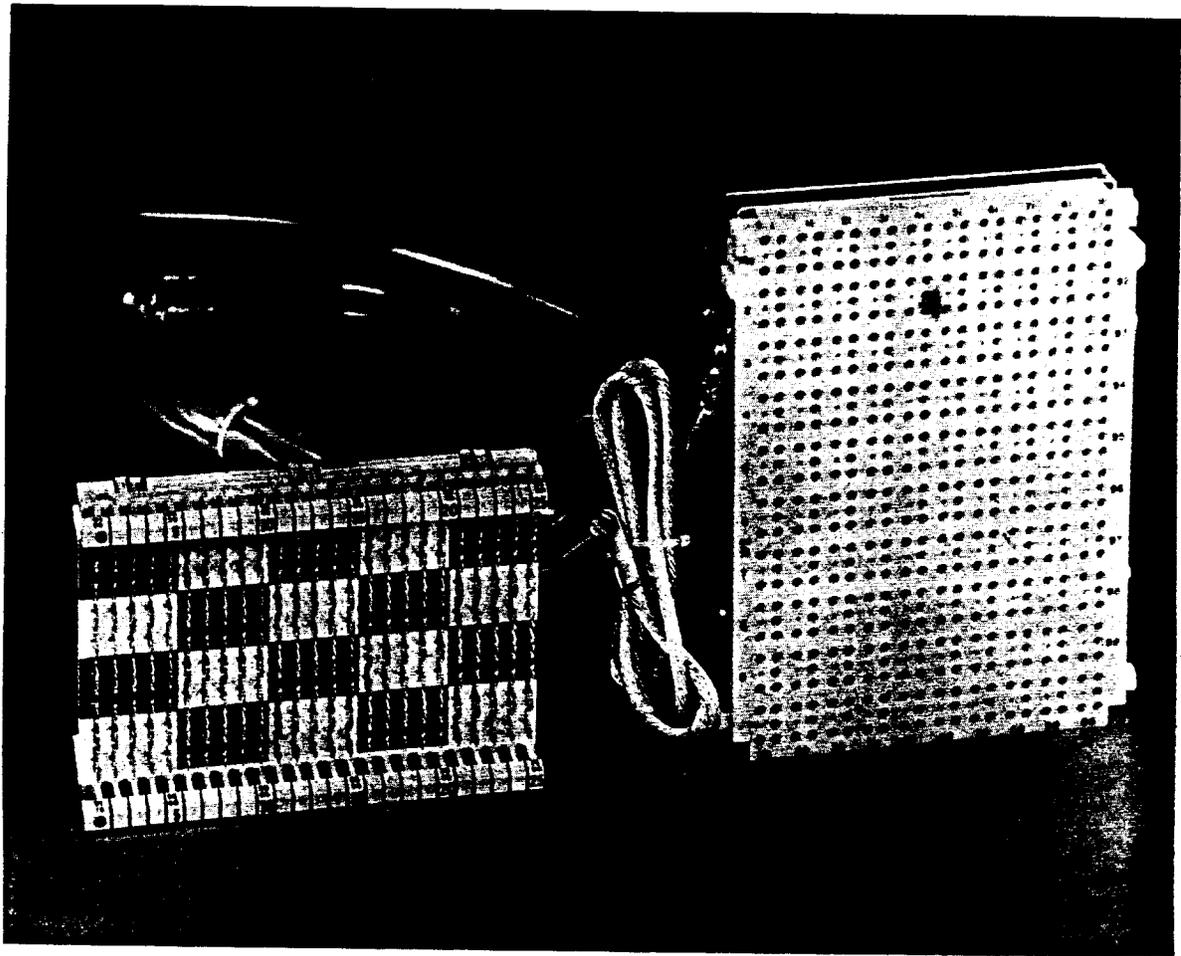
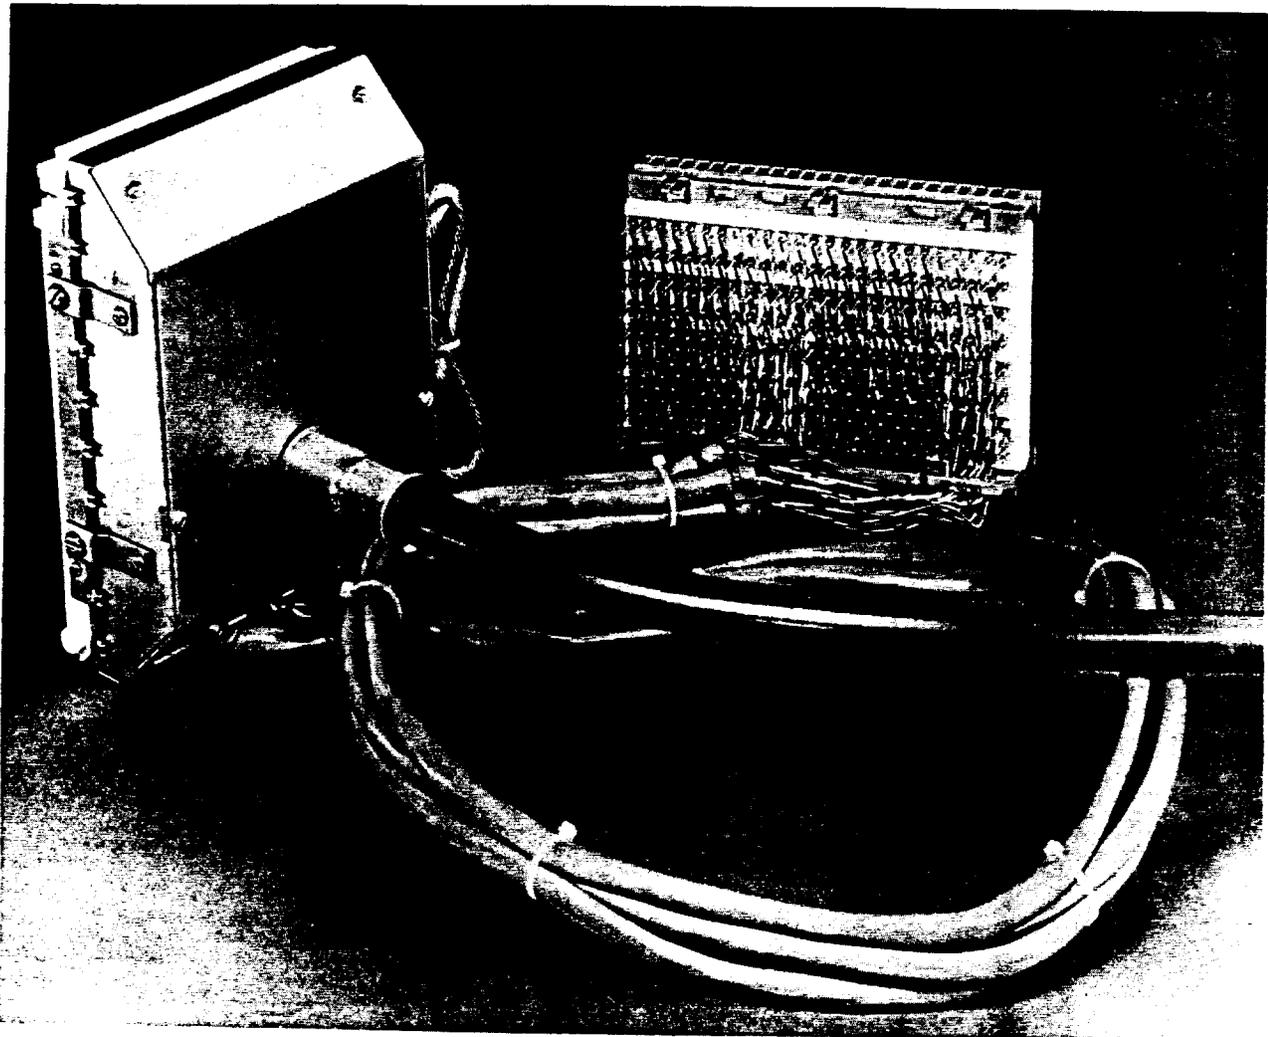

Figure 14. 307LD2-100 Connector — Front View
Figure 15. 307LD2-100 Connector Casing — Rear View
6.01 The 307-type UL Listed connectors are available with the standard 112-type blocks (also UL Listed) (3-beam terminals) having bifurcated quick-clips (Figure 14). All the exposed loose wires from the stub cable are encased in a metal casing (Figure 15). The twisted-pair harness between the protector panel and the 112-type block is also provided with fire retardant PVC jacket.
6.04 The 307LD2-100 connector has a protector panel interconnected to one 100-pair 112C1B-100 connecting block. The block is stenciled and is listed to be used on the **COSMIC II**, IIA, and Mini Frames (Figure 14). The connecting block is connected with four 25-pair, 24-gauge (0.5 mm) jacketed cables. The outside plant stub cable 26-gauge (0.4 mm) is directly wire-wrapped to the backplane of the protector panel and comes in 30-foot (9.1 m), 50-foot (15.2 m), and 100-foot (30.5 m) lengths (See Table D). All the exposed loose wires are enclosed in a metal casing (Figure 15).
7.02 The UL connector shown in Figure 14 comes with the stub cable of 30-foot (9.1 m), 50-foot (15.2 m), and 100-foot (30.5 m) lengths. The following procedure is to be followed for installing the UL Listed connector: